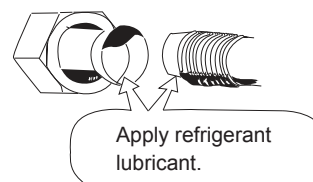

Fig. 2-5-4
- (1) Apply a sealing cap or water-proof tape to prevent dust or water from entering the tubes before they are used.
- (2) Be sure to apply refrigerant lubricant (ether oil) to the inside of the flare nut before making piping connections. This is effective for reducing gas leaks. (Fig. 2-5-4)